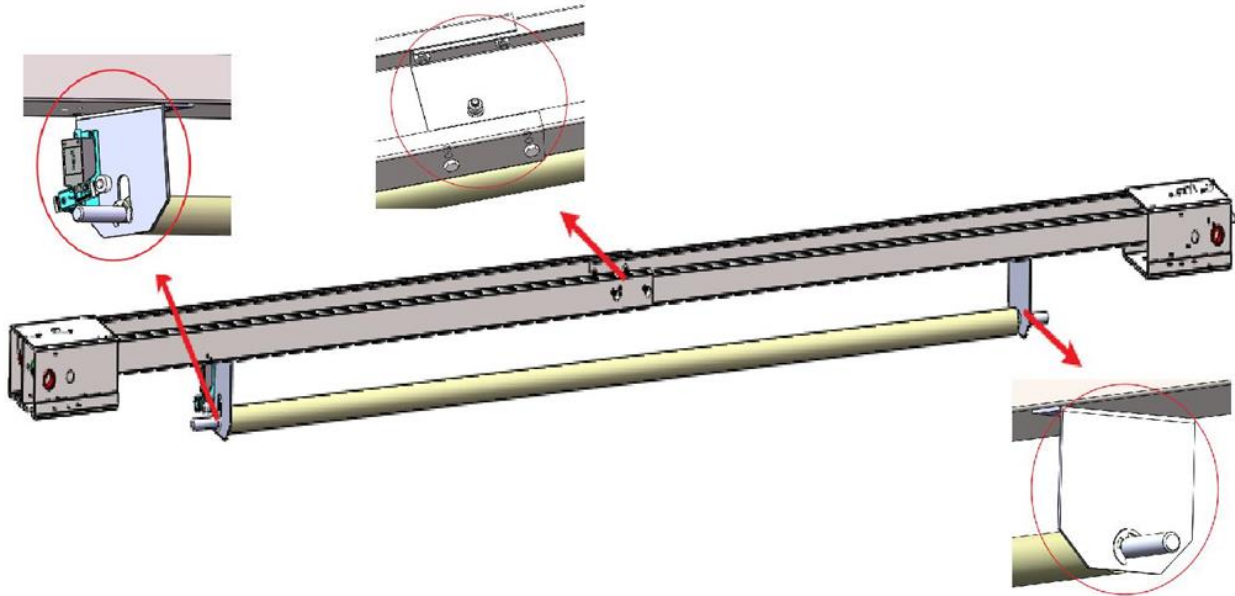

Fig. 7
1. Assemble overhead top beam (See Fig.7)